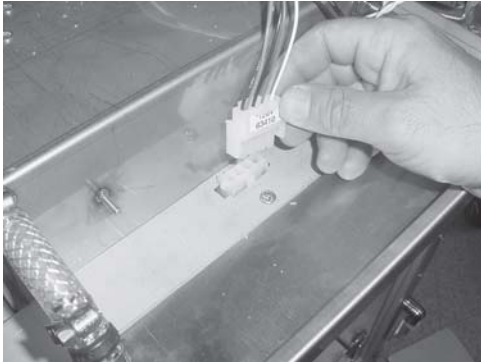

Figure 3-46
4. Unplug water heater and high limit wires. Figure 3-46.